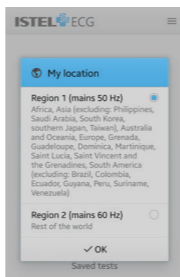

Fig. 16
- My location. Select the anti-disturbance filter protecting against disturbances from the electrical grid. (see Fig. 16).